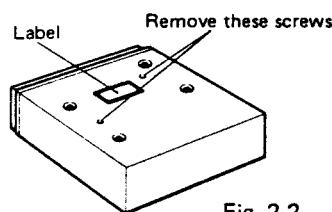

Fig. 2-2
- Two screws are affixed to the bottom of the unit to secure the mechanism during transport. Be sure to remove these screws before installation of the player. (Fig. 2-2)